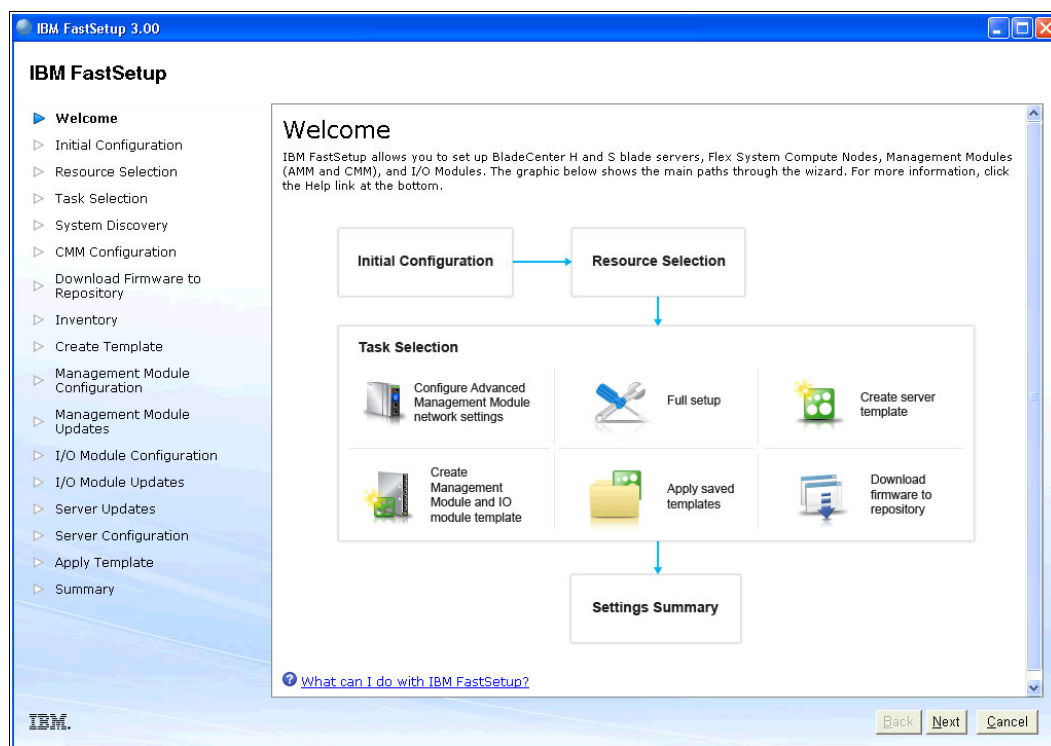

Figure 6-29 FastSetup welcome page
- Select your language and accept the terms and conditions. The Welcome page that Figure 6-29 shows then opens.